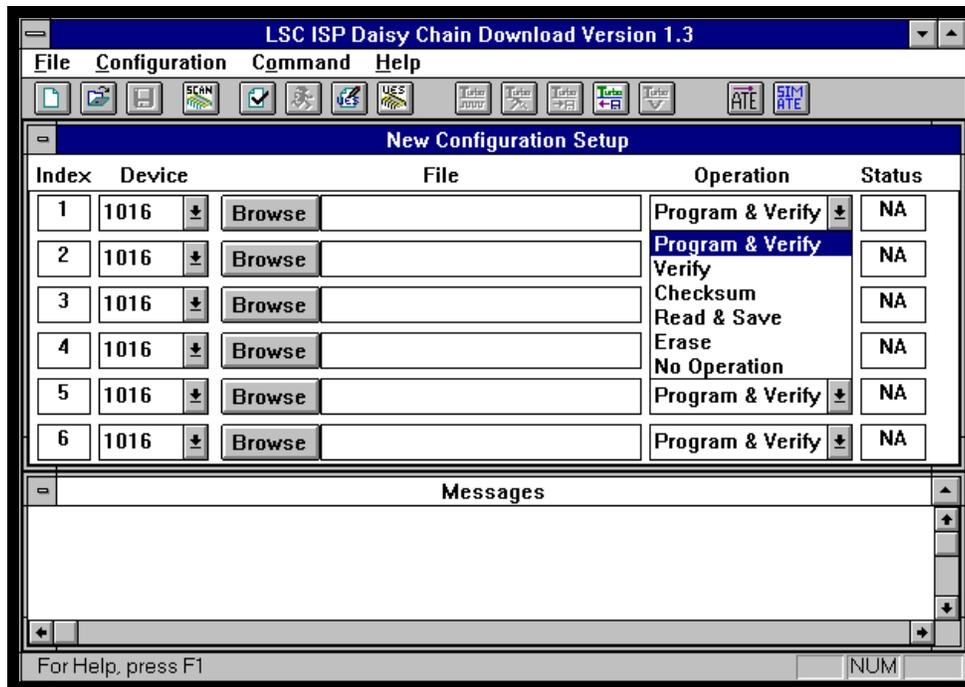

Figure 3-8. Operation Selection Options
5. Select the **Operation** (Figure 3-8). Use the down arrow to activate the pull-down menu.